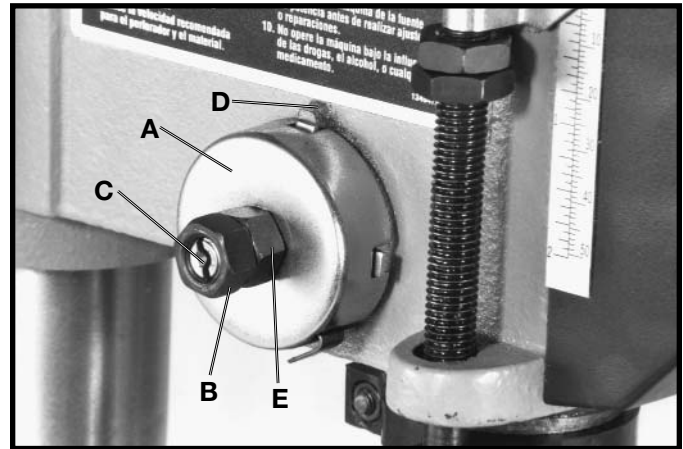

Fig. 24
2. Loosen nuts (B) and (E) Fig. 24. Make sure spring housing (A) stays engaged with head casting.
3. While **FIRMLY HOLDING** spring housing (A) Fig. 24 pull out housing and rotate it until boss (D) is engaged with the next notch on the housing. Turn the housing counterclockwise to increase or clockwise to decrease spring tension. Turn nut (E) until it contacts spring housing (A), then back nut (E) out a 1/4 turn. Tighten nut (B) against nut (E), to hold the housing in place. **IMPORTANT: Inside nut (E) should not contact spring housing (A) when tightened.**